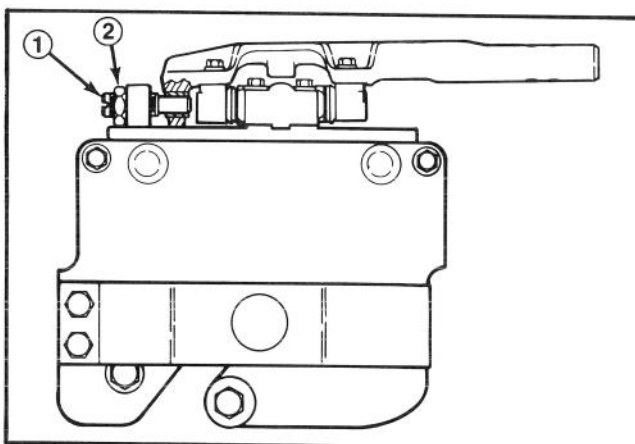

Figure 15
- B. Fixed Position (Fig. 15) — Generally used for heights-of-cut above one inch (25 mm), where more than approx. 1" (25 mm) of grass is being removed, the front roller is fully raised in the anti-scalp position or when skids or dethatching units are installed. In the fixed position, cutting units are locked to the pivot arm and do not follow uneven contours in the turf as they would in the float position.
Fixed Positions: Loosen jam nut on lockout pin and screw pin into hole in pivot arm (Fig. 15). Tighten jam nut to secure lockout pin.
- A. Lock cutting unit in fixed position (refer to Cutting Unit Orientation, Fig. 15).
1. Lock each cutting unit in the fixed position (Refer to Cutting Unit Orientation, Fig. 15). Set the reel to bedknife adjustment and height-of-cut adjustment (Page 9-11).